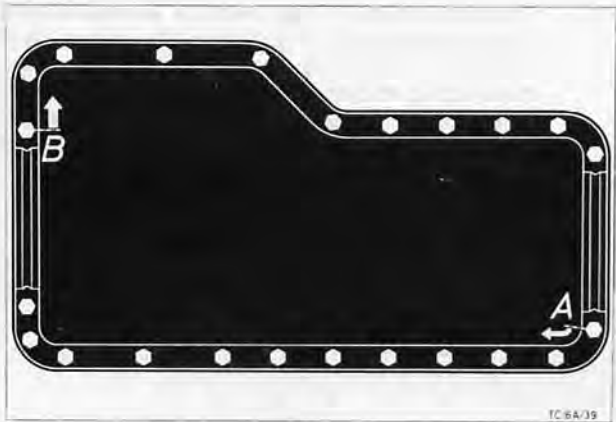

Fig. 109. Sump bolt tightening sequence
47. Place sump in position, Fig. 109, and torque bolts, as specified, in three stages as follows: